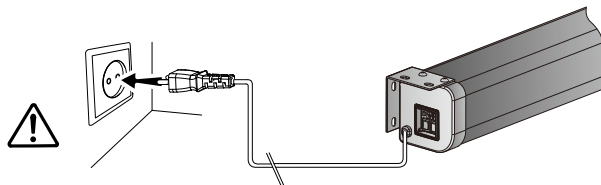

Figure 10
2. Connect power supply (Figure 10).